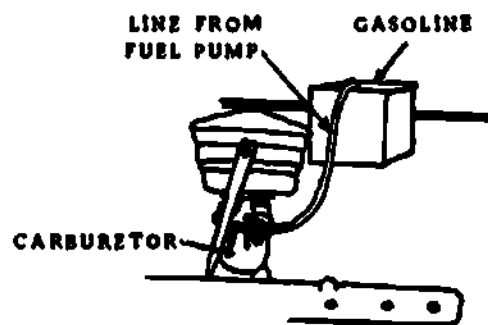

Fig 3-10. Substitute for unrepairable fuel tank.
- (3) **Unrepairable damage.** If a fuel tank is damaged beyond repair, mount a container higher than the carburetor in the engine compartment. A gasoline can makes the best substitute for a tank but anything will do, even an arctic boot. Cut the fuel line leading from pump to carburetor as far from the carburetor as possible. The line must now be bent but this must be done carefully; otherwise you may crimp the line and cause a stoppage. When the line is bent at the first point near the carburetor and prior to bending it the second time to go down into the tank, the line must be filled with fuel. Then hold your thumb or finger over the end to prevent the fuel from flowing out. Now bend the line (keeping the end blocked) so that it is as near the bottom as possible. Once the line is down in the container, your thumb or finger can be removed. If the line is too short, use the windshield wiper hose to lengthen it. As long as the container is kept filled with fuel, it will flow into the carburetor by force of gravity. Figure 3-10 illustrates how this kind of connection is made.